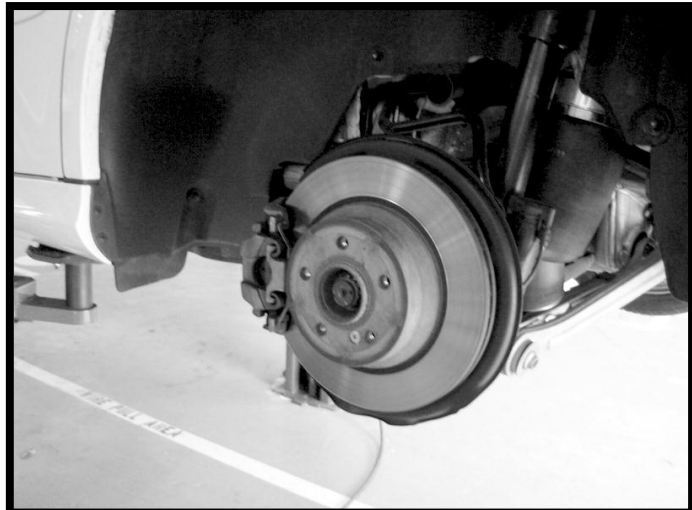

FIGURE 10-1
- 4.0 REMOVE REAR TIRE(S). (FIGURE 10-1)